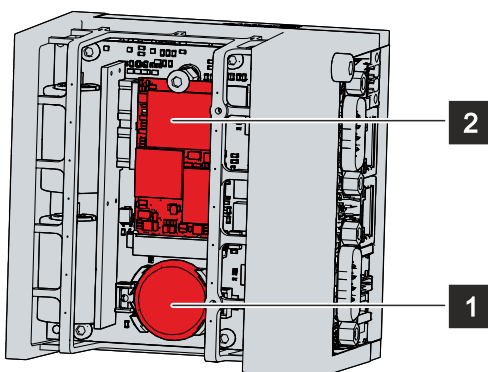

Fig. 29: Battery and storage media
- ⇒ The battery is now in an oblique position (see fig. 29).
5. Push the high side of the battery down into the battery holder (see fig. 29).